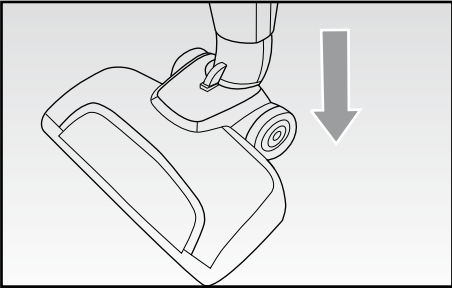

Fig. 7
- Insert the brush into the appliance body (R), by slightly pressing it until it locks in place (Fig. 7).